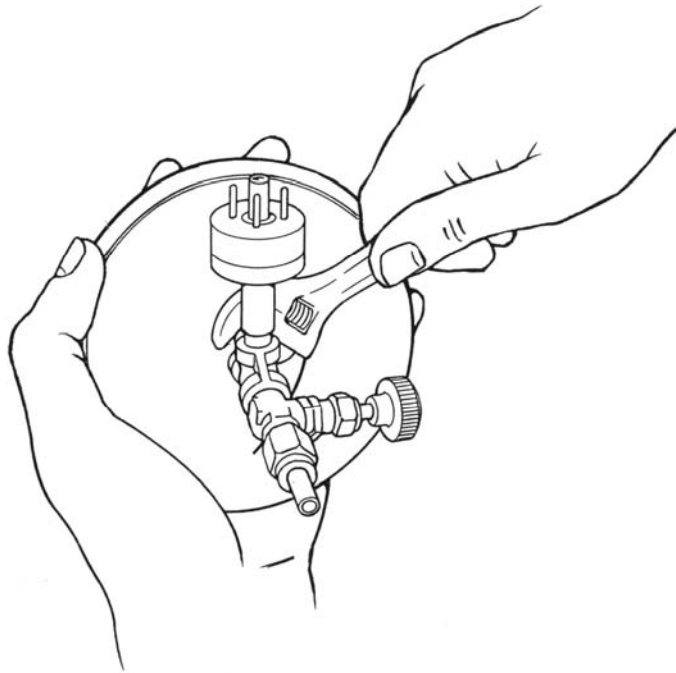

Figure 9 • Installing the Needle Valve with the Thermocouple Gauge
- Replace it with the needle valve with the attached thermocouple (Figure 9).